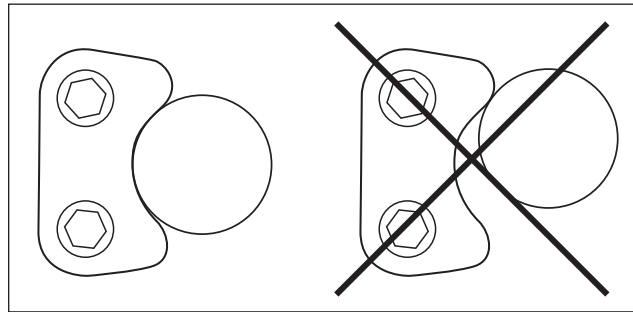

Figure 26
15. Carefully close the tailgate. If necessary, adjust the saddle block slightly up or down to align it with the horizontal tube. This will be set in final position later once wheel/tire assembly is installed, but it needs to align well enough to close in the meantime (fig. 26).